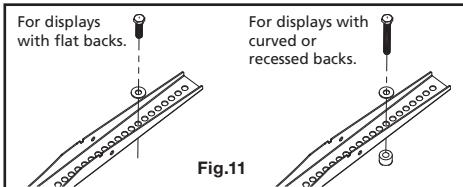

Fig.11
7. Attach the mount arms to the back of your display using the screws identified in Steps 1 and 2 (see Fig.11):
- A. If you are using the M6 screws you will also need to use the M6 washers (H). M8 screws do not require washers.
- B. If you are using the longer screws on a display with a curved or recessed back, you will also need to use the spacers (I). Use one spacer or two spacers stacked as needed. **You should only use a spacer if necessary.**